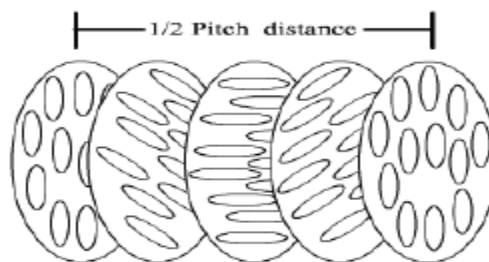

Figure 3: Cholesteric liquid crystal
1. This phase of Liquid Crystal is similar to the nematic phase, however the director in each successive layer is inclined to form angle with the direction of the axis of molecules in the preceding layer as shown in Figure 3.